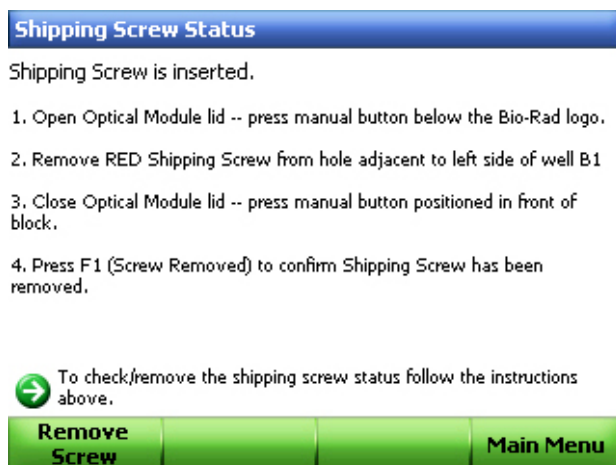

Figure 6. Instructions to remove the shipping screw.
7. Follow the instructions in the front panel of the C1000 thermal cycler to remove the red shipping screw from the inner heater lid (Figure 6). Turn the screw counterclockwise to lift it out of the hole.